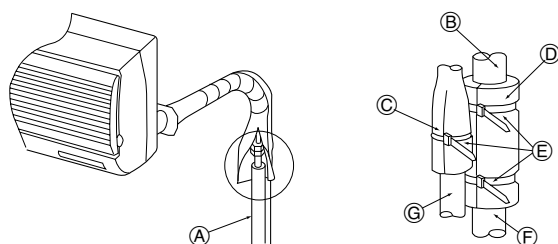

Fig. 4-4
4.4. Refrigerant piping (Fig. 4-4)
- Wrap the pipe cover ③ that is attached to the gas pipe and make sure that the connection joint is not visible.
- Use the bands that are provided ④ to tighten both ends (15–20mm, 19/32 to 25/32 inch) of each pipe cover ③.